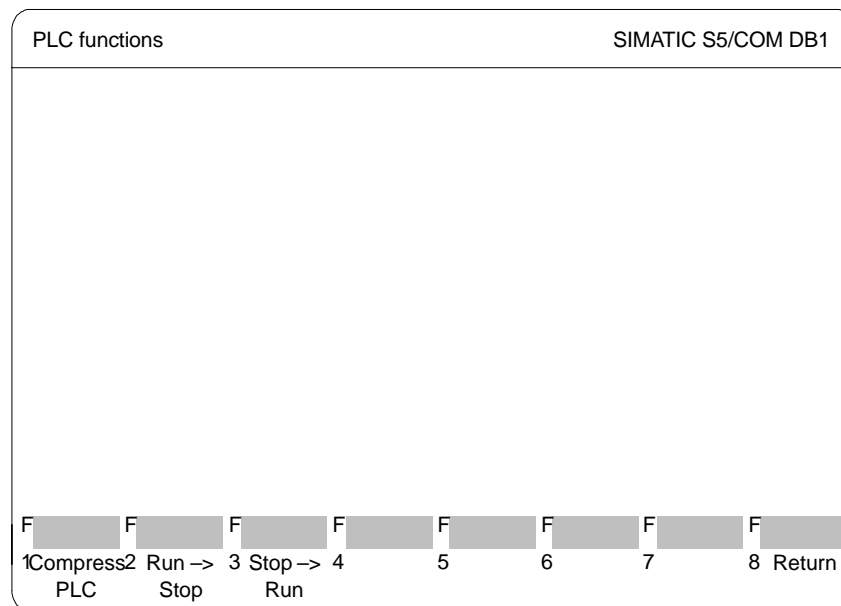

Figure 23-20 COM DB1 *PLC Functions* Dialog
1. Press **F7** = *PLC functions* in the *Overview table* dialog (see *Figure 23-20*). The *PLC functions* dialog appears.